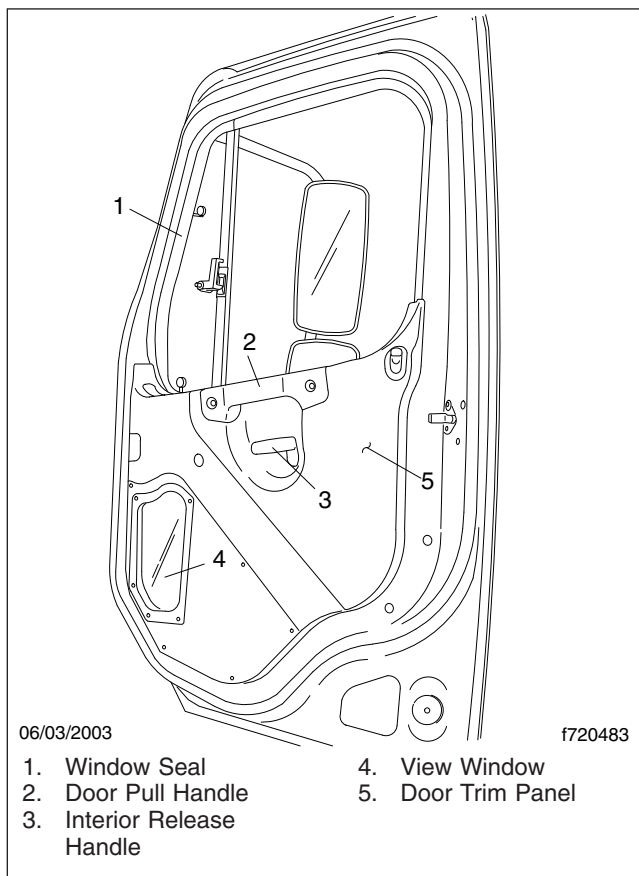

Fig. 1, Cab Door Trim
2. Using a T40 driver, remove the two mounting screws from the upper and/or lower door-pull handle. See **Fig. 1**.